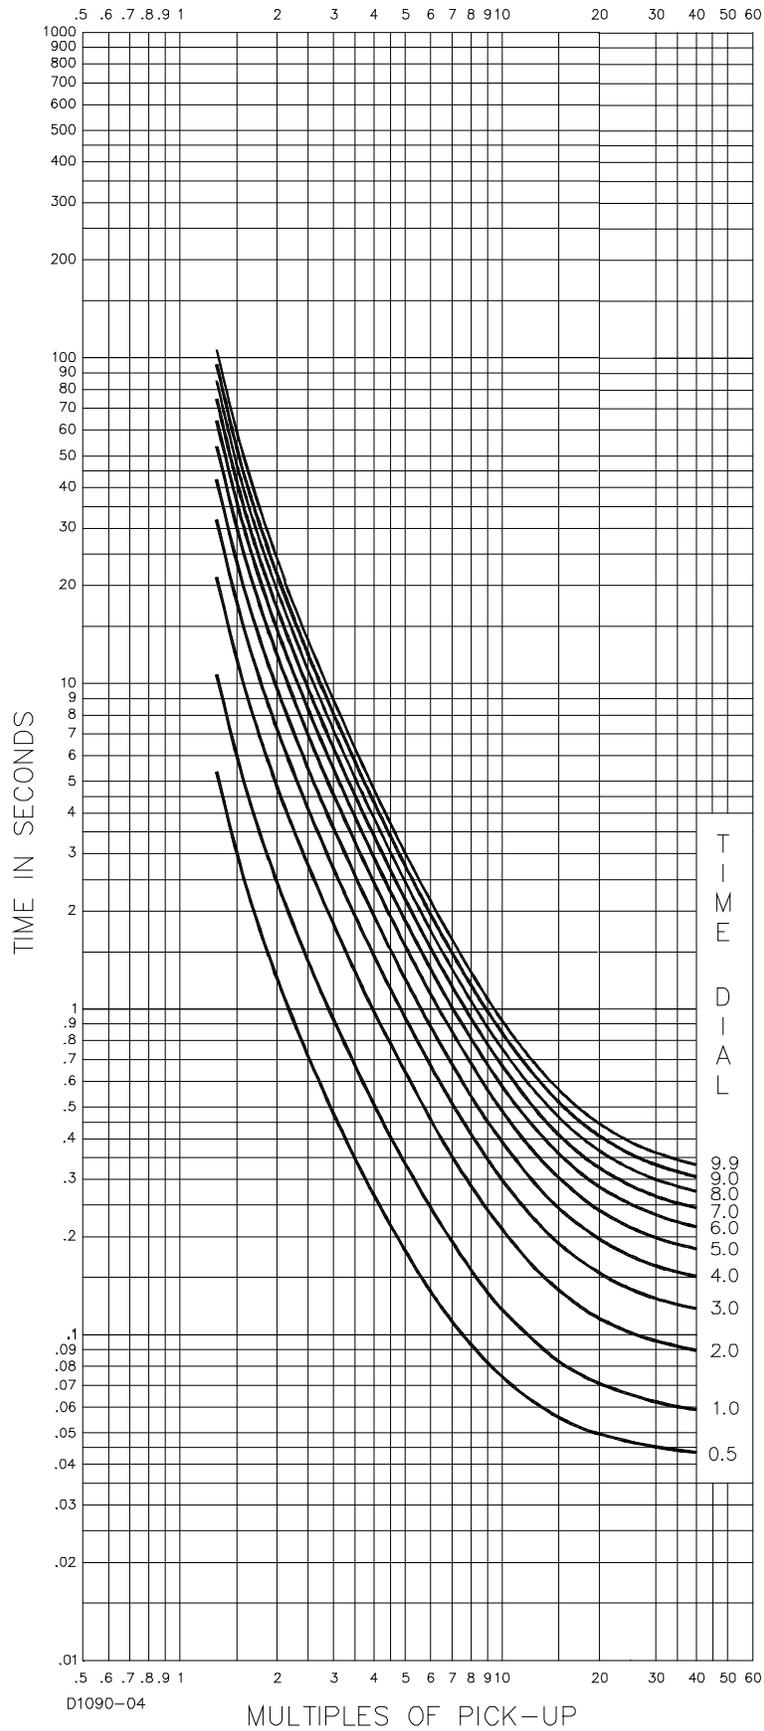

Figure 7-7. E-Extremely Inverse Curve (SW3-3 Off, Similar to ABB CO-11)
- E-Extremely Inverse (SW3-3 OFF, Similar to ABB CO-11): Figure 7-7